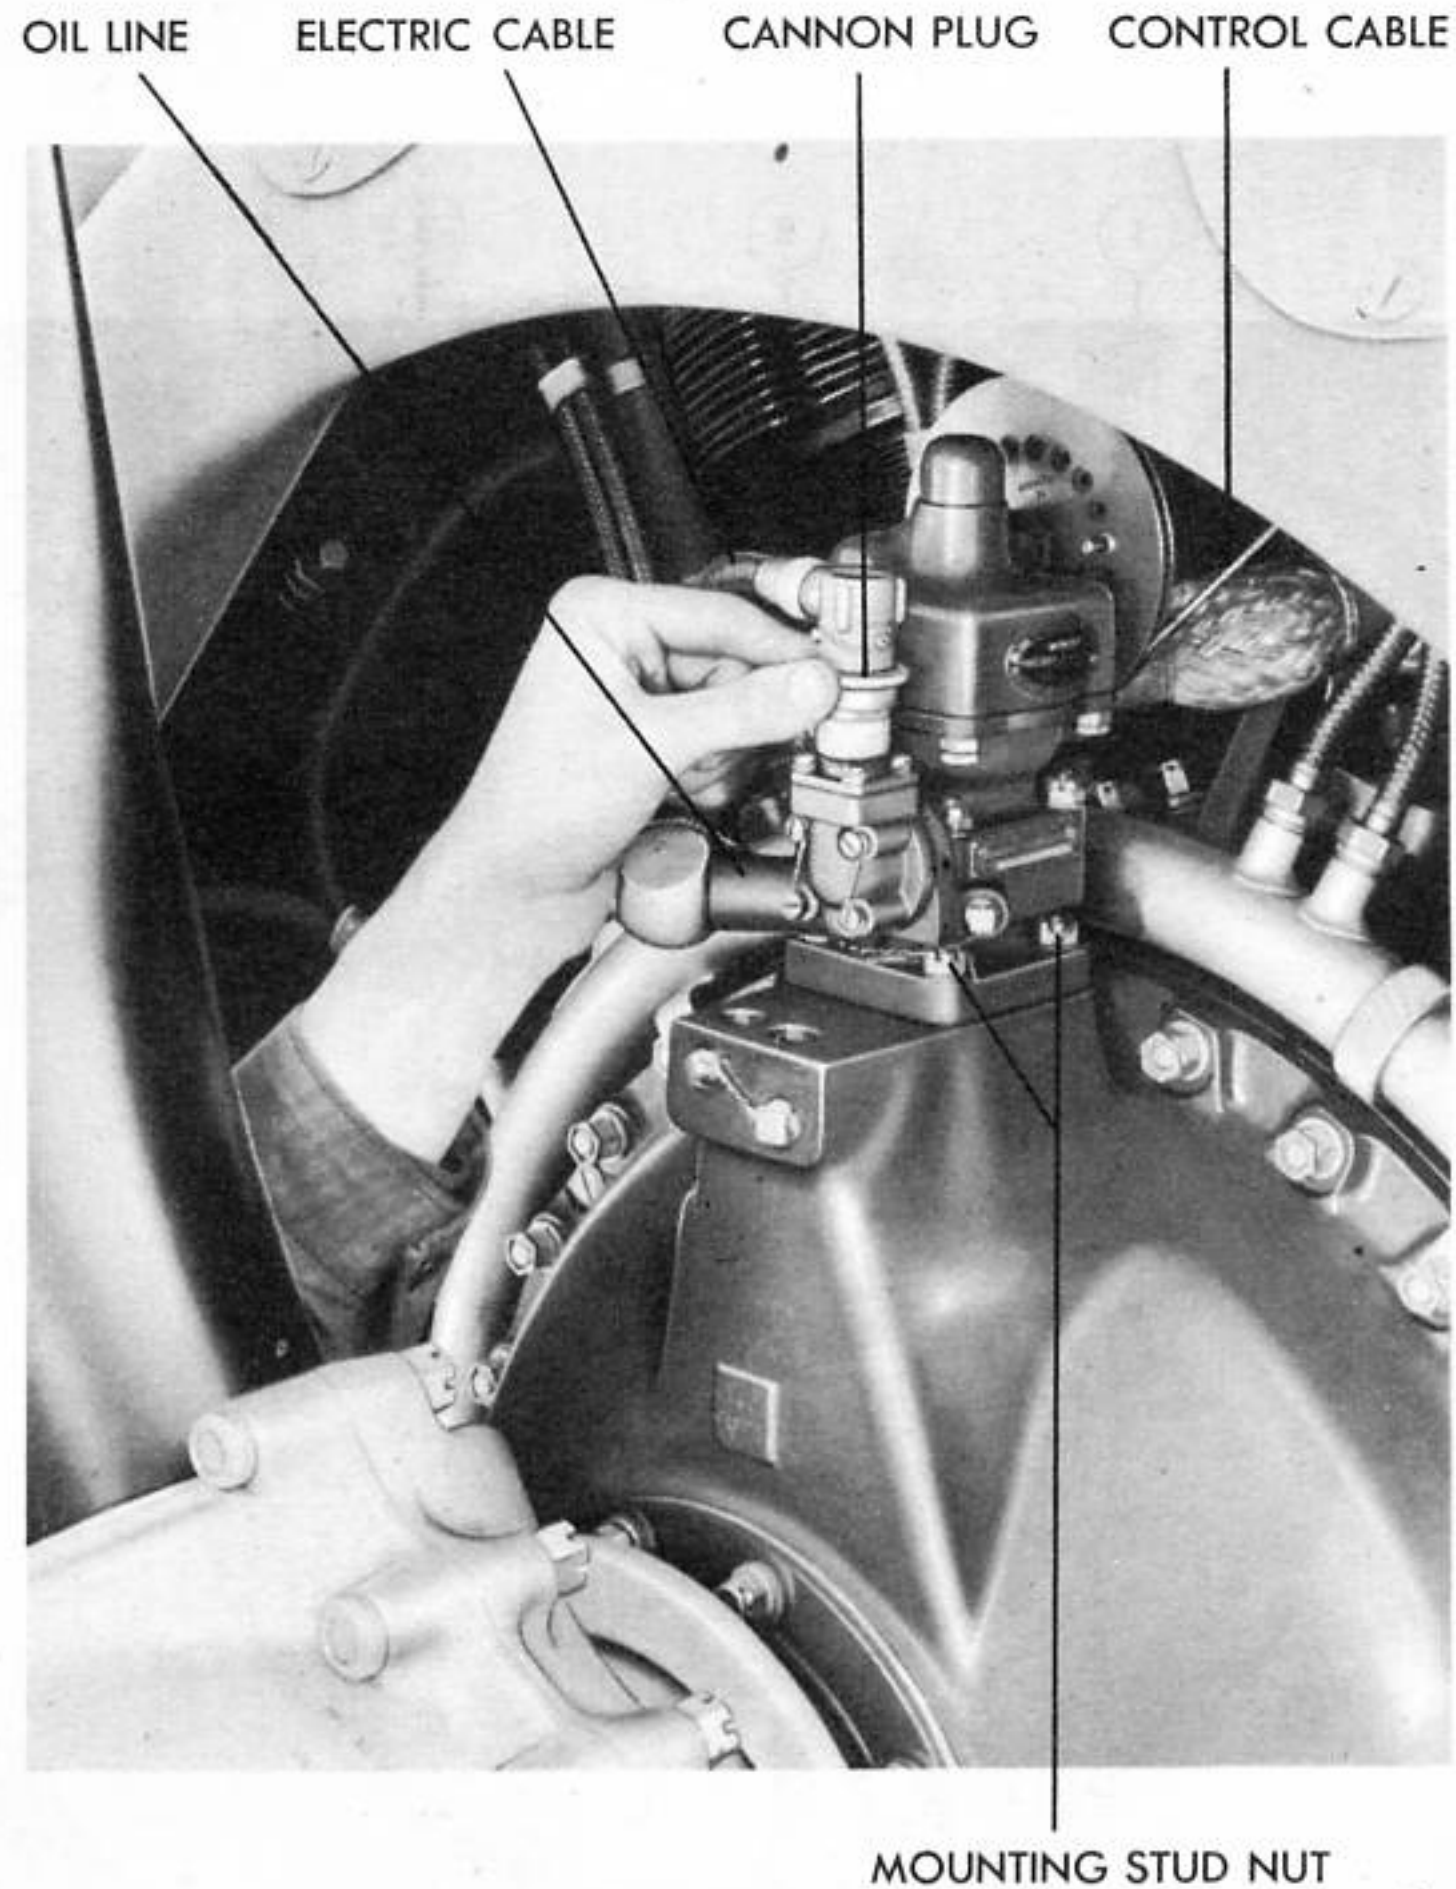

Figure 117 - REMOVING PROPELLER GOVERNOR
(2) REMOVAL OF PROPELLER GOVERNOR. (See figure 117.)
(1) INSTALLATION OF PROPELLER GOVERNOR. (See figure 117.)